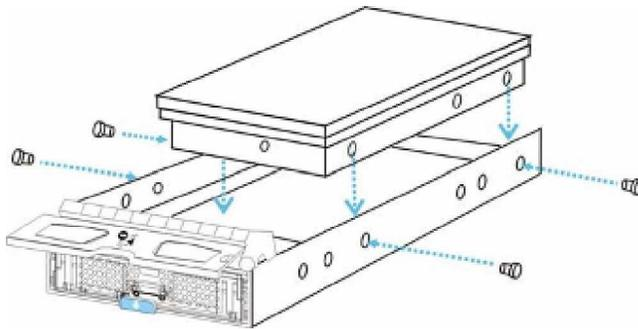

Figure 2-6: Installing a SATA Hard Drive
Step 1. **Place the SATA hard drive into the drive tray.** (See *Figure 2-6*) Make sure the hard drive is oriented in such a way that the drive’s SATA connector is facing the back of the drive tray.
Step 2. **Adjust the drive’s location** until the mounting holes in the drive canister are aligned with those on the hard drive. Secure the drive with four (4) supplied 6/32 flathead screws. (See *Figure 2-6*)